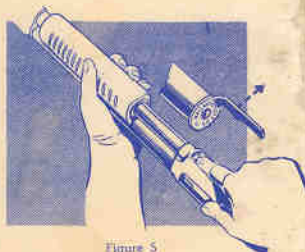

Figure 5
**TO REMOVE LOADED SHELLS FROM MAGAZINE:**—Turn gun trigger guard up, barrel pointed to left, press back left cartridge stop as in Figure 5; this releases shell in magazine. Remove shell, repeat until magazine is empty.